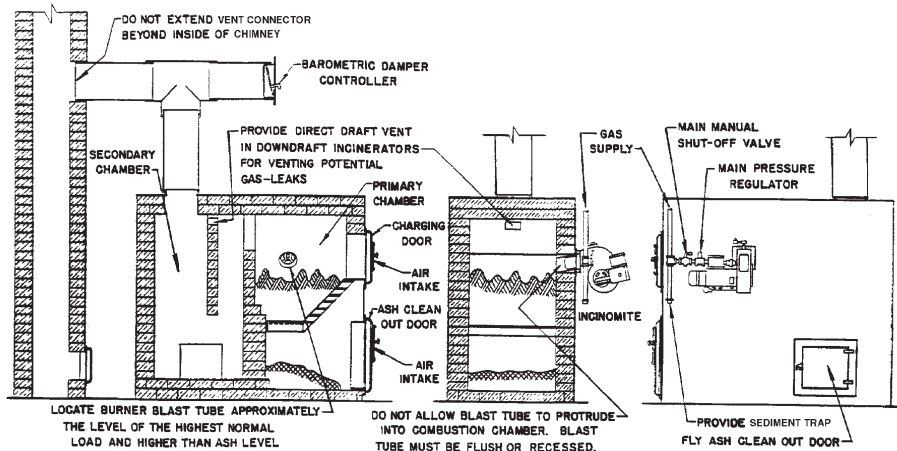

Figure 1 - Typical Installation
- To change the Mounting Flange to its alternate position, horizontal or 10° down firing, remove the four (4) screws that attach it to the burner, rotate the flange 180° and reinstall the screws.
**⚠ CAUTION:** If the incinerator is of the down draft design, make sure that a direct draft vent opening of approximately 10 square inches has been put through the top of the drop section(s) to provide for the venting of any gas leakage. See Figure 1.
- A suitable Main Gas Pressure Regulator should be installed as shown in Figures 1 or 2. Choose a regulator(s) to adjust the available gas pressure to the pressure shown in SPECIFICATIONS, page 2.